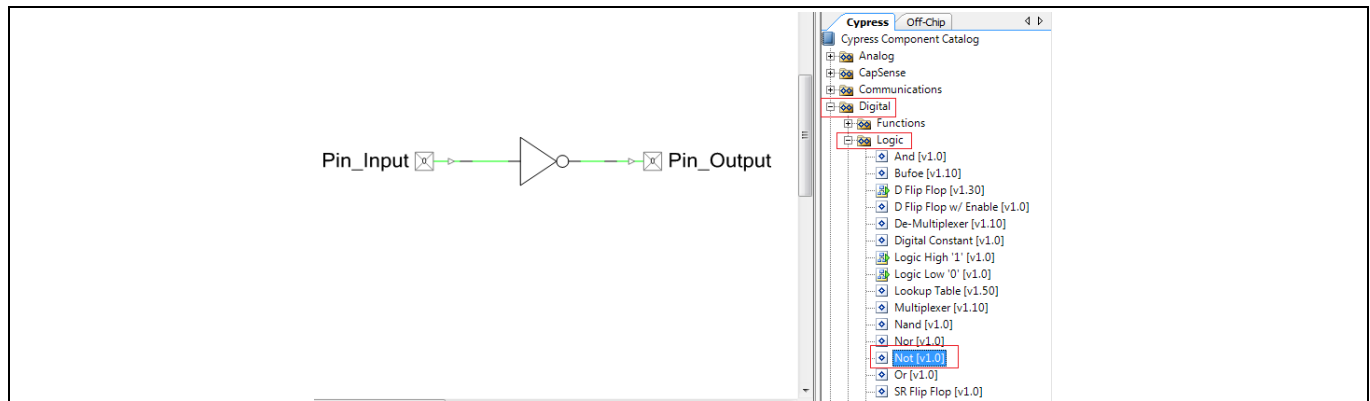

Figure 50 NOT gate connection
- Place a NOT gate and connect to the pins as shown in Figure 50.